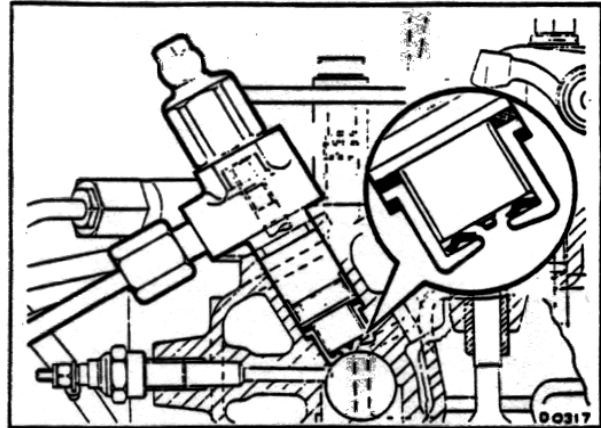

Fig. 1
3. Renew the atomizer sealing washers, fitting new washers as shown in Fig. 1.